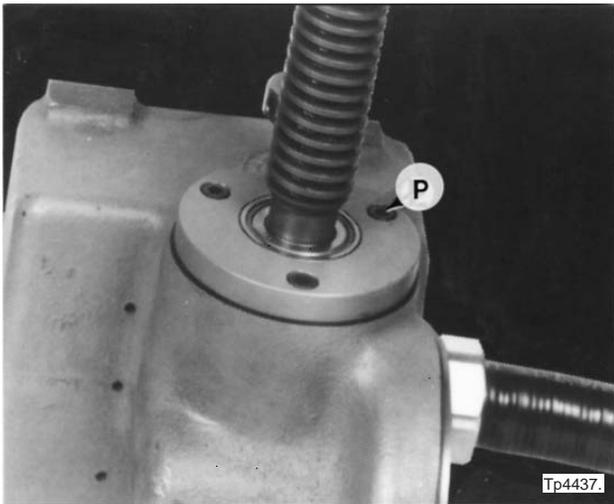

Figure 3.31 - Feed Screw Housing
15. Replace three screws “P”, Figure 3.31 .